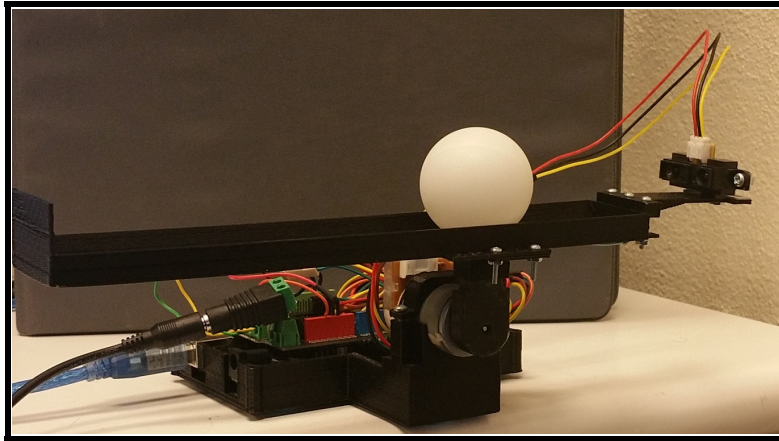

Figure 3.3: Ball and Beam
45. Set up the system so that it is balanced, with the beam parallel to the floor, and with the ball at the center of mass point, as in Figure 3.3.